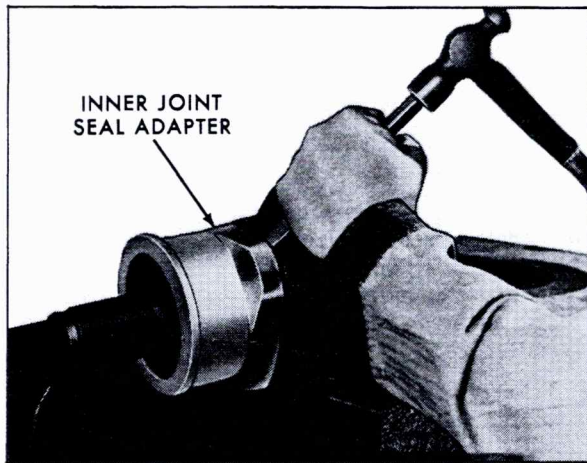

Fig. 3-66 Removing Seal Adapter From Joint Housing
3. Remove large end of seal from joint housing by prying up crimped edge on seal adapter. Next, drive seal adapter and seal off of joint housing with a hammer and chisel as shown in Fig. 3-66.